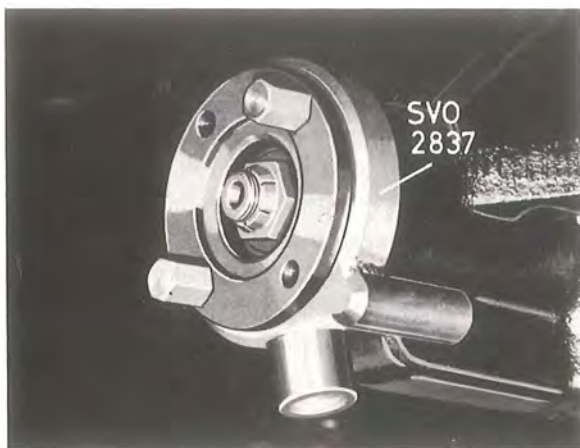
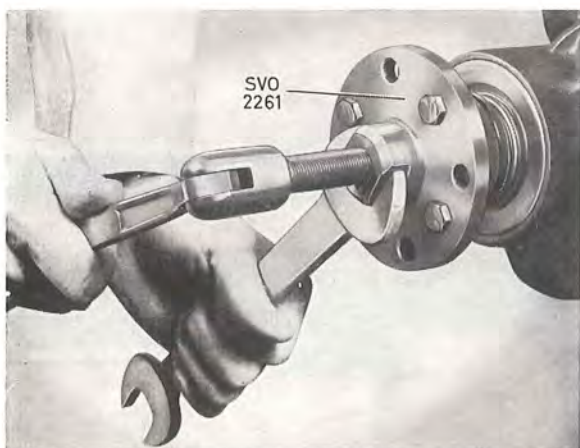

Fig. 4-135. Counterhold for flange
Fig. 4-136. Removing the flange
2. Remove the nut for the flange. Use for this purpose tool SVO 2837, see Fig. 4-135. Pull the flange off with puller SVO 2261, see Fig. 4-136. Pull out the old oil seal with puller SVO 4030.
7. Turn the final drive and let the oil run out into a container. Use tool SVO 2837 as a counterhold for this purpose, see Fig. 4-135. Pull off the flange with puller SVO 2261, see Fig. 4-136. Press out the pinion.